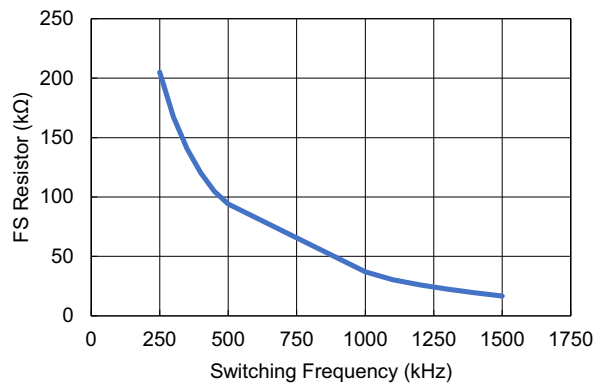

Figure 48. RFS vs Frequency
**IMPORTANT:** Equation 1 approximates the real data presented in Figure 48. The data used for Figure 48 is typical, and there is some variation because of temperature and variation. This variation is shown in the electrical specifications table by providing four fixed resistors and the frequency and tolerance achieved with those resistors.